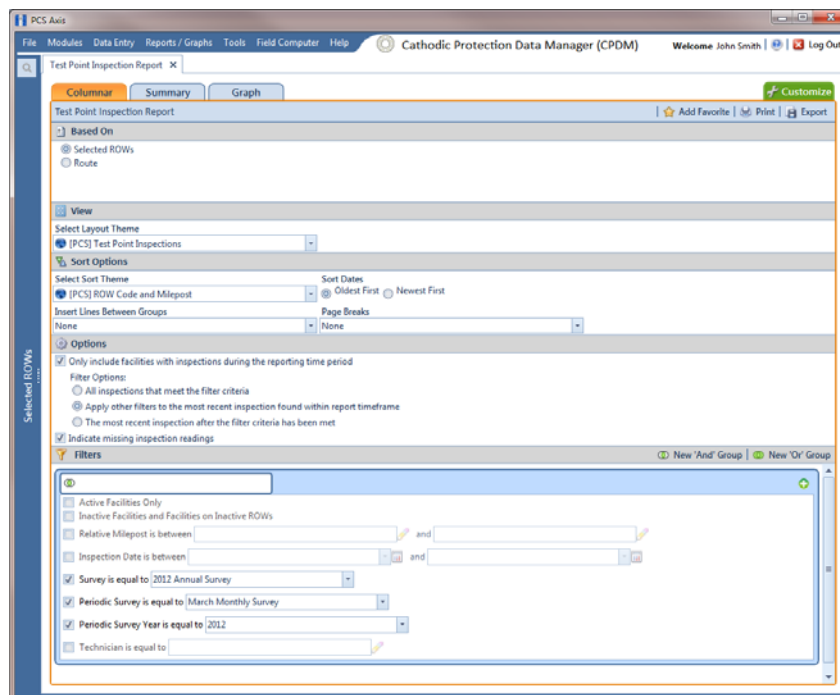

Figure 15-24. Test Point Inspection Report (Summary)
- 7 Select one or more of the following survey filters in the *Filters* group box. The *Summary* report requires at least one of these filter settings (Figure 15-24):